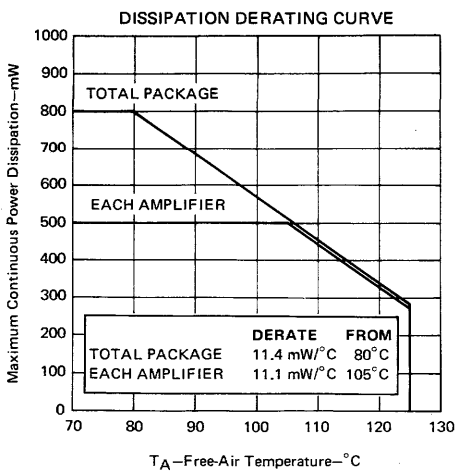

FIGURE 2
5. For operation of SN52747 above 70°C free-air temperature, refer to Dissipation Derating Curve, Figure 2.